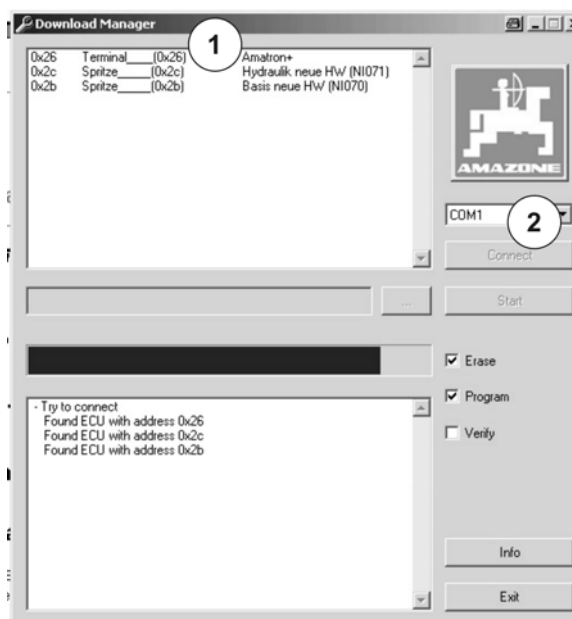

Fig. 5
To do this, click on "Connect" (Fig. 5/2) and wait until the status bar has reached the end.
- All computers (Fig. 5/1) that were found in the **AMATRON⁺** system are now listed in the connection field.